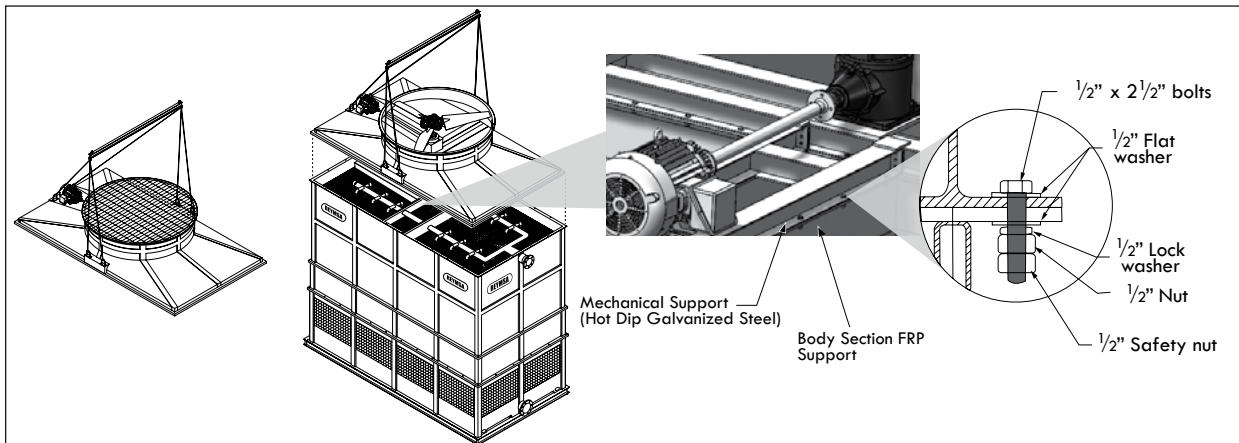

Figure A-52: Fan Deck installation of an RTG and RTGTC Tower with motor installed outside the airstream.
- W. After installing the fan deck section, access to inside the fan deck section and bolt down the Galvanized Steel mechanical support to the Fiberglass (FRP) support (see Figure A-52). The Galvanized Steel mechanical support is built in a "T" shaped configuration and this base must be bolted to the Fiberglass (FRP) support in the upper section on which it sets. The bolts must be installed on the full perimeter of the "T" shaped mechanical support. Access to perform this assembly inside the tower is through the fan guard access door (except for 8' wide models which require removal of the fan guard).